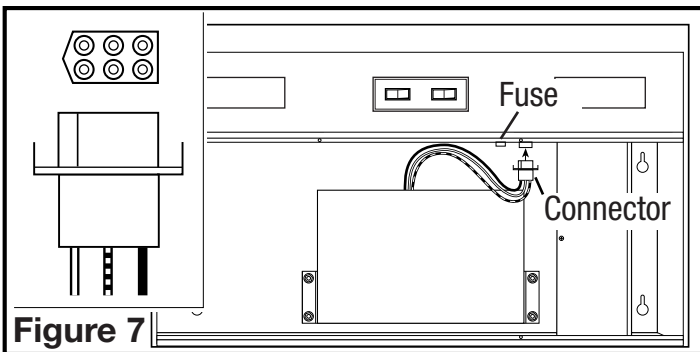

Figure 7
3. Plug the blower connector into the port on the front wall of the blower compartment. It will fit only one way (Figure 7).
1. To replace the fuse, turn the fuse cap located next to the wire connector counter clockwise and pull out. Replace with only a 125-Volt fuse, 3 Amp Max. Reinstall the fuse back into the hood (Figure 7).